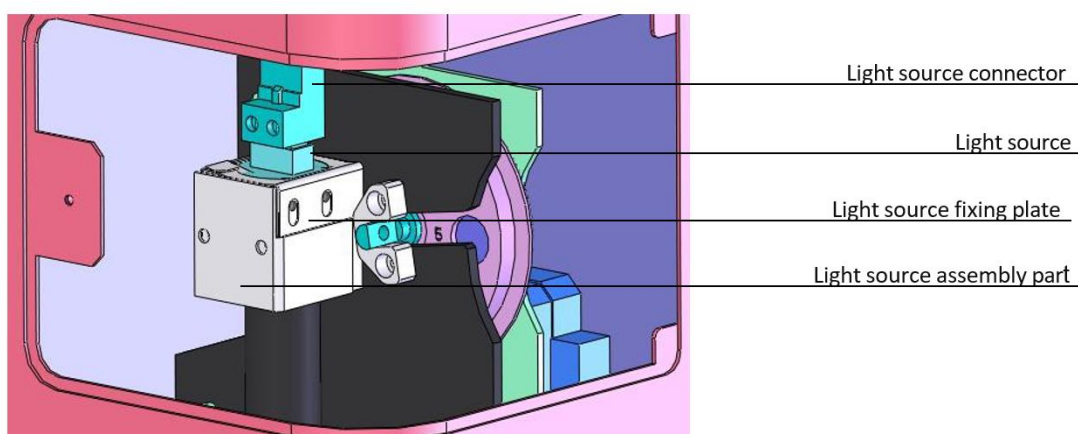

Fig. 53 Light Source
- a. Open the back door of the instrument, locate the light source (see Figure 53), loosen the screws on light source connector using a small screwdriver, remove this connector by gently pulling it upwards.
- c. Replace the new light source by reversing the above steps, pay attention to the position of the light on the light source part, then connect the fixing plate. See Figure 53